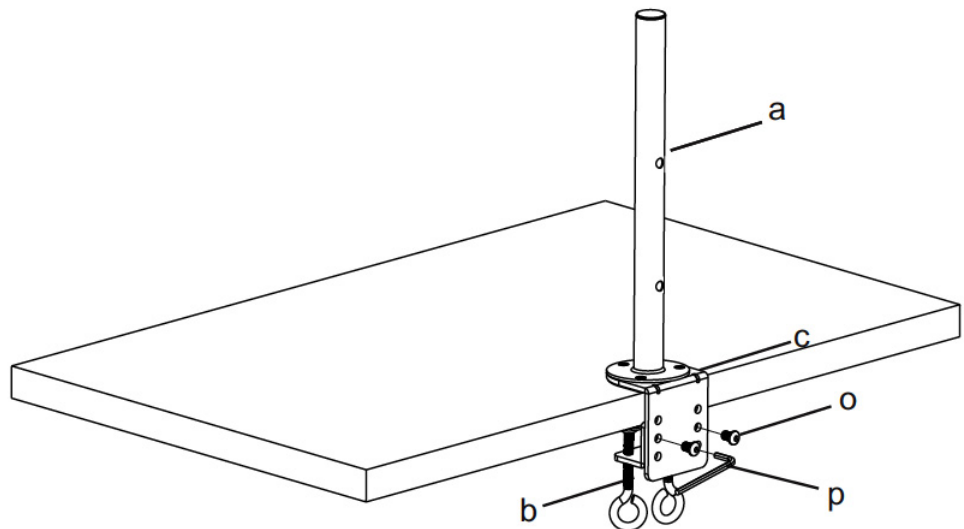

Figure 2
2. Install the C-Clamp (b) to the Tube Support assembly (a) according to the thickness of the desktop. The thickness can be changed in three positions. Connect it using two M10x15 Bolts (o) and tighten them using the Allen Key (p). Tighten the C-Clamp to the desktop using the 2 eye bolts, see Figure 2.